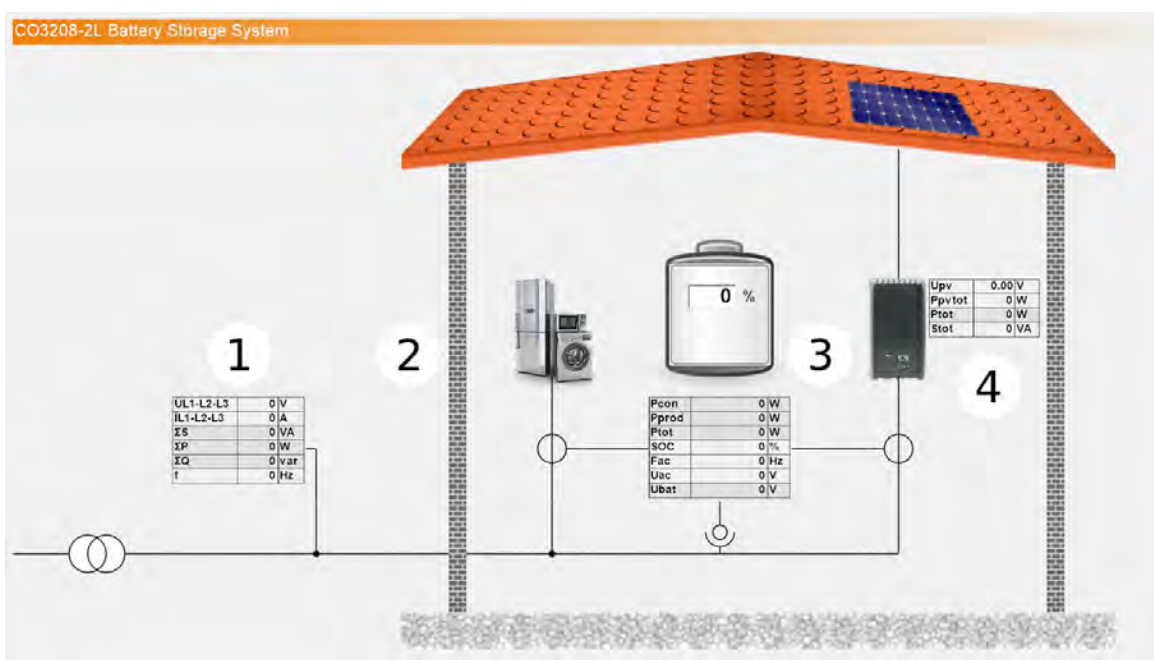

Figure 21:
- ❖ SCADA user interface will look as Figure 21.